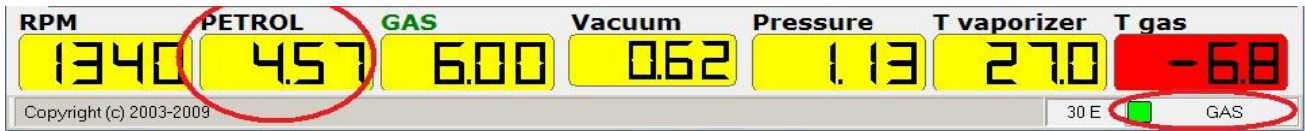

Figure 3.40: Petrol time on gas
- 7) If used gas injectors were used for the first time during autocalibration, their characteristics may change drastically during first drive on gas. Therefore first autocalibration may not give correct results. It is recommended to check if idle model is still correct after first drive on petrol by comparing petrol time at idle on gas and petrol time at idle on petrol (figures 3.40, 3.41).